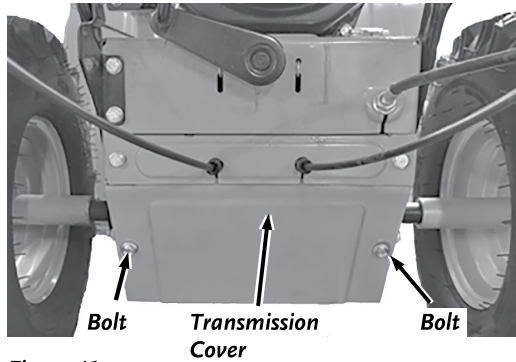

Figure 41
3. Remove the six Bolts that secure the Transmission Cover using a 10mm Wrench and Remove the Transmission Cover (**Figure 41**). This will allow you to guide the Belt off the Auger Pulley from underneath.